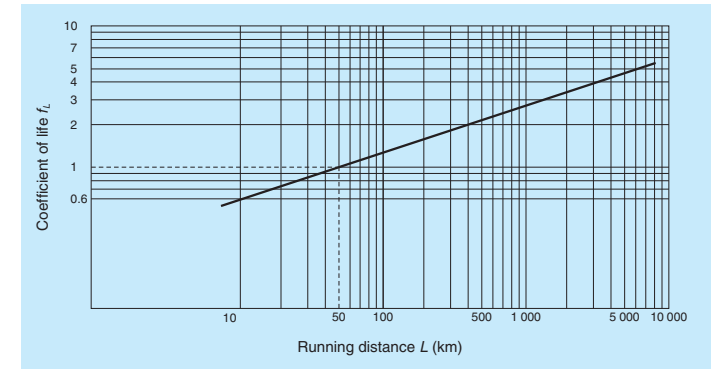
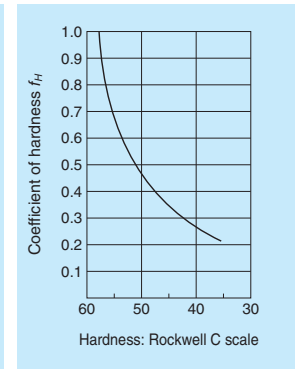

Fig. 5 Relationship between life factor and running distance
Fig. 6 Hardness factor
- P : Radial load (N)
- f_L : Life factor (Refer to Fig. 5)
This formula is used provided that the shaft hardness is HRC58 or higher. Rated life is shorter if the shaft is softer. In this case, find the hardness factor f_H from Fig. 6, and multiply the value.
From Fig. 5 and Fig. 6,